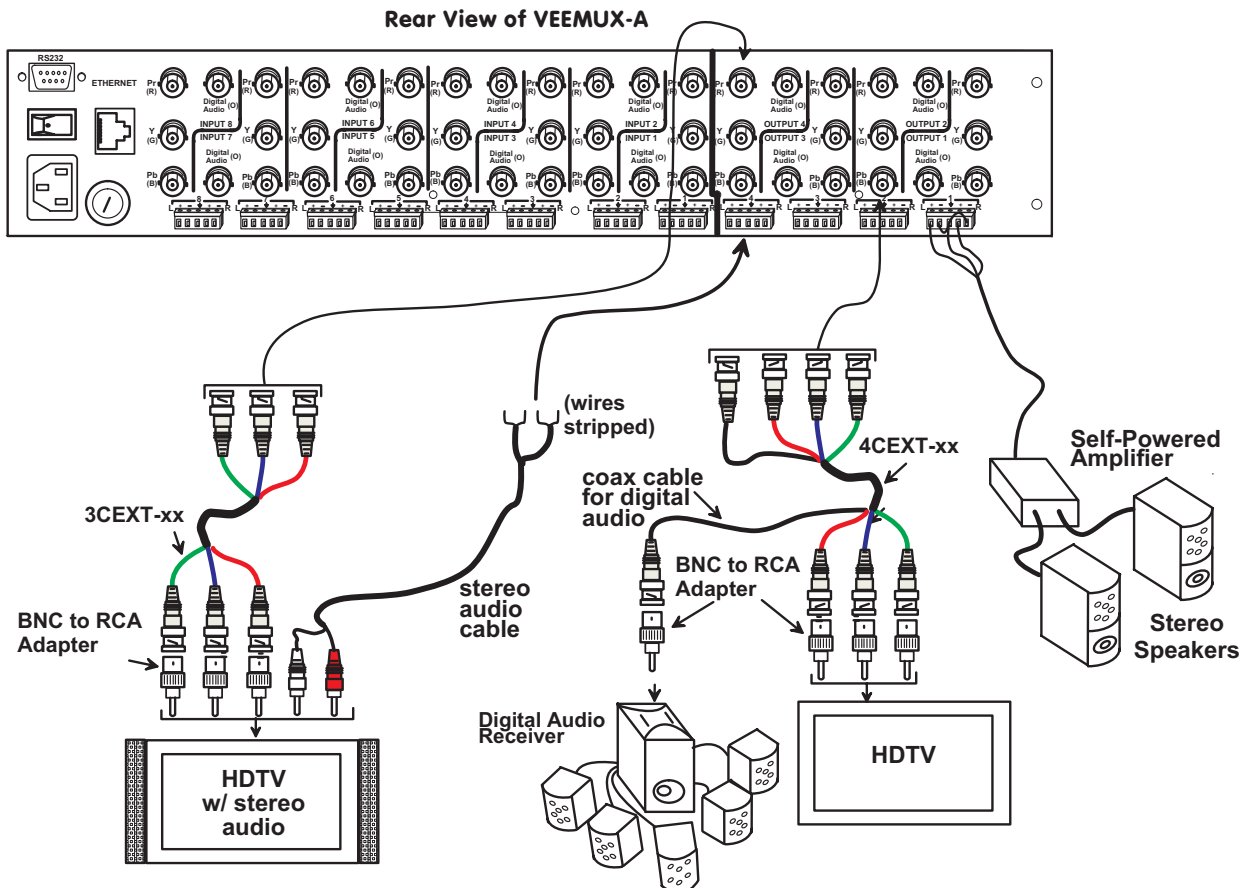

Figure 3- Connect devices, audio and video
1. Connect each of the video display devices to the VEEMUX-A using 3CEXT-xx or 4CEXT-xx cables. The groups of terminals are labeled OUTPUT1-4. Use BNC to RCA adapters (as shown in figure 3) to connect the BNC cables to the devices. Connectors on the VEEMUX-A are labeled green (Y), blue (Pb) and red (Pr) to correspond with the colors on the BNC cables.
To make a terminal connection, connect a serial cable (specifications on page 30) between the user terminal and the 9 pin DIN female connector on the VEEMUX-A labeled "RS232". (See Fig. 3)